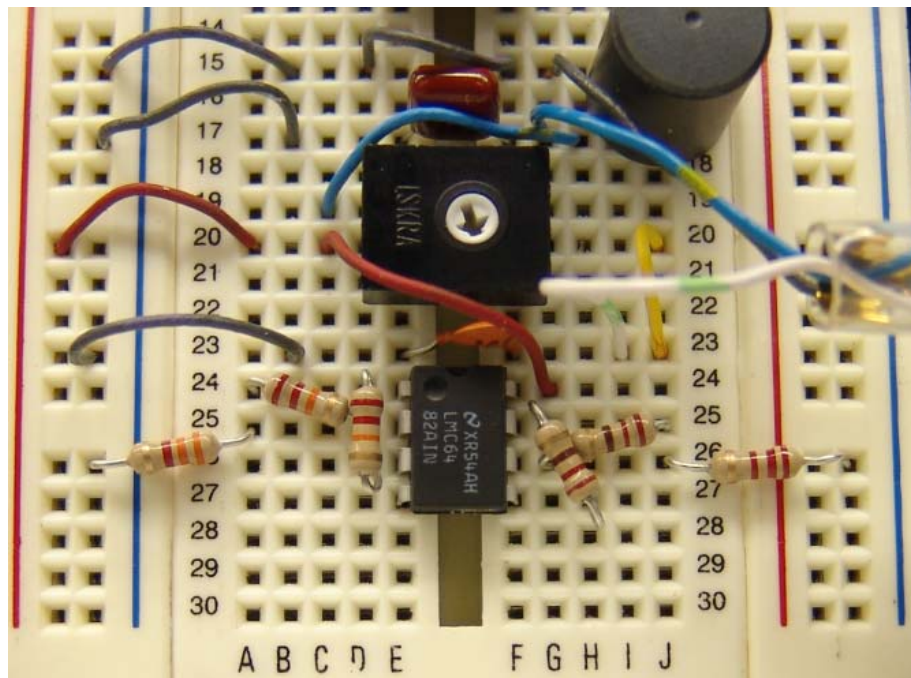

Figure 19. Positive terminal of the op-amp is connected from G24 via D20 and A20 to the positive end of the battery.
15. Connect the positive power supply terminal of the op-amp. Refer to figure 19.